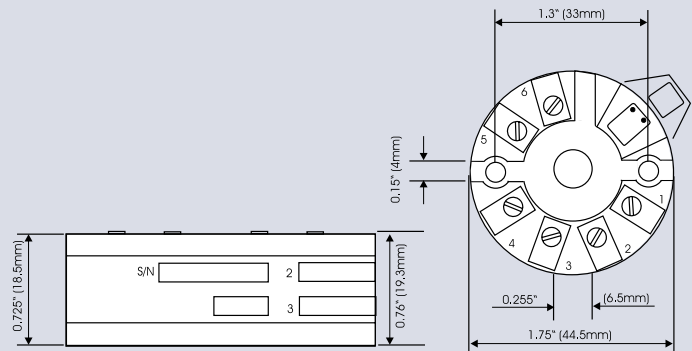

Figure 2: Dimensions
3. Physical dimensions for mounting are in Figure 2.